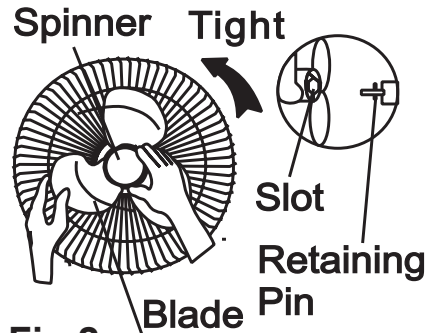

Fig.2
2. Insert the blade into shaft, and make sure the rotor shaft pin is fitted into groove of the blade. Turn the spinner counterclockwise to tighten the blade. (Fig. 2)